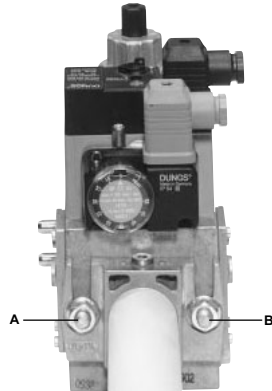

Fig. 7
3. tighten screws A, B, C and D (Fig. 7 - Fig. 8), according to the mounting positions (Fig. 10);